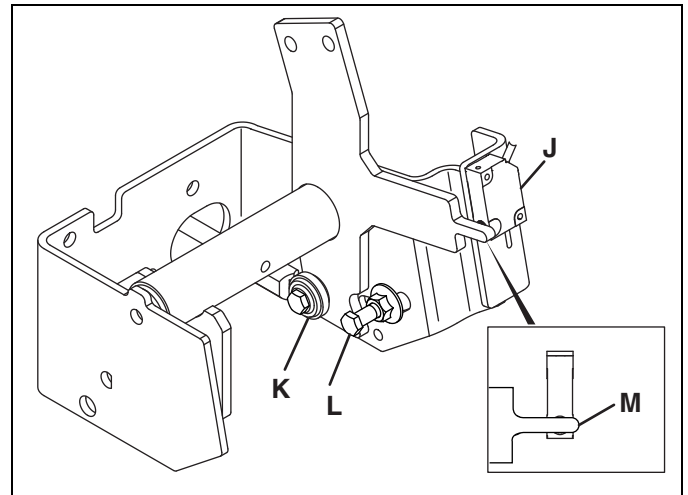

Figure 3E
3. Check that tow valve (H) is closed
4. Engage parking brake and set mow switch to Neutral. Make sure Neutral switch at traction pedal is closed. (Figure 3E - M). Distance between the sensing portion of switch and metal pointer (M) must be between 1/16 and 1/8 in. (1.5 and 3 mm).
5. Loosen screws (G) holding pump lever bracket just enough so it can be moved. Start engine and observe wheels. Adjust bracket (F) in slotted holes until wheels do not turn. Turn off engine and tighten bracket in place.
6. Connect traction linkage. When connecting linkage at traction pedal make sure pointer on traction pedal bracket is centered over Neutral switch (M - Figure 3E).